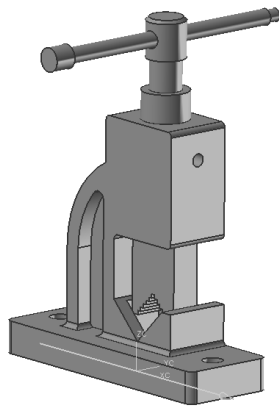
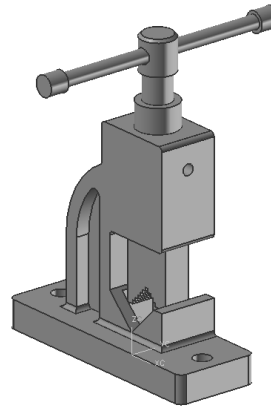

**Figure 8-66** Datum plane to be selected from the Handle Stop
**Figure 8-67** Datum plane to be selected from the Handle
10. Select the right datum plane from the Handle Stop, as shown in Figure 8-66, and then select the right datum plane of the Handle, as shown in Figure 8-67.